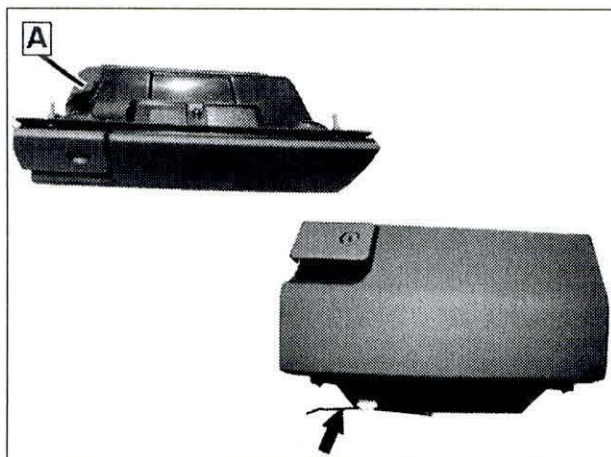

Figure 1
- For WIS Step 3: **Carefully** cut cable tie (arrow, Figure 1) securing harness to bottom of glove box. Lift section of felt tape (A, Figure 1) securing harness to top of glove box (replace felt tape if required: shop supply).